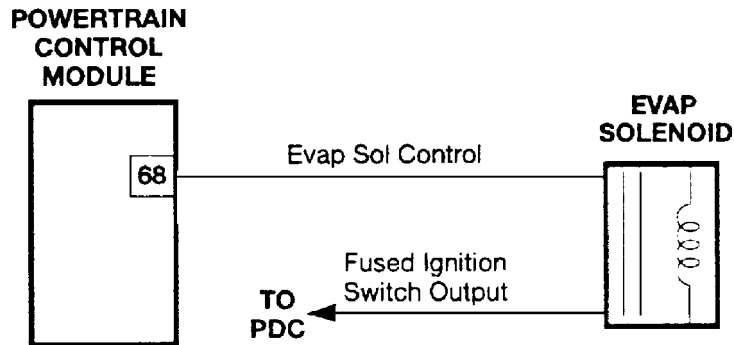

Figure C064-5 Evaporative (EVAP) solenoid circuit through 1998 for all except 1998 300M, Avenger, Concorde, Intrepid, LHS, Sebring,
- Figure C064-5 Evaporative (EVAP) solenoid circuit through 1998 for all except;